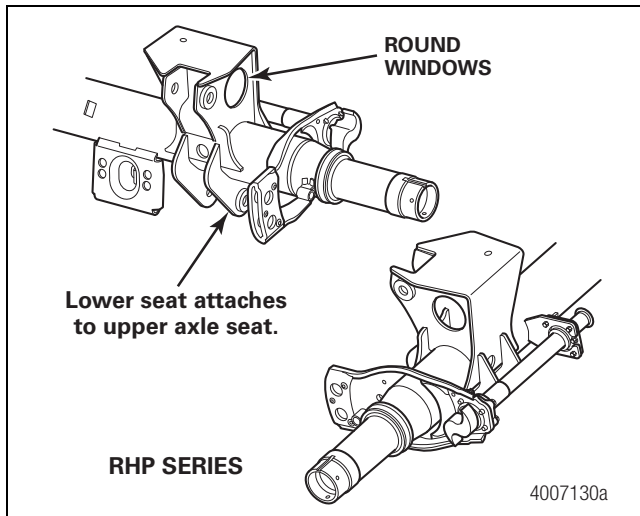
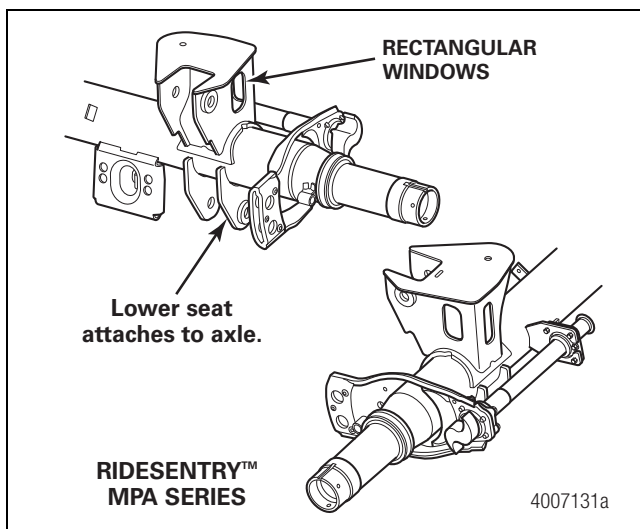

Figure 1
Figure 2
1. Inspect the worn axle seats to determine the axle seat type. Figure 1 and Figure 2.